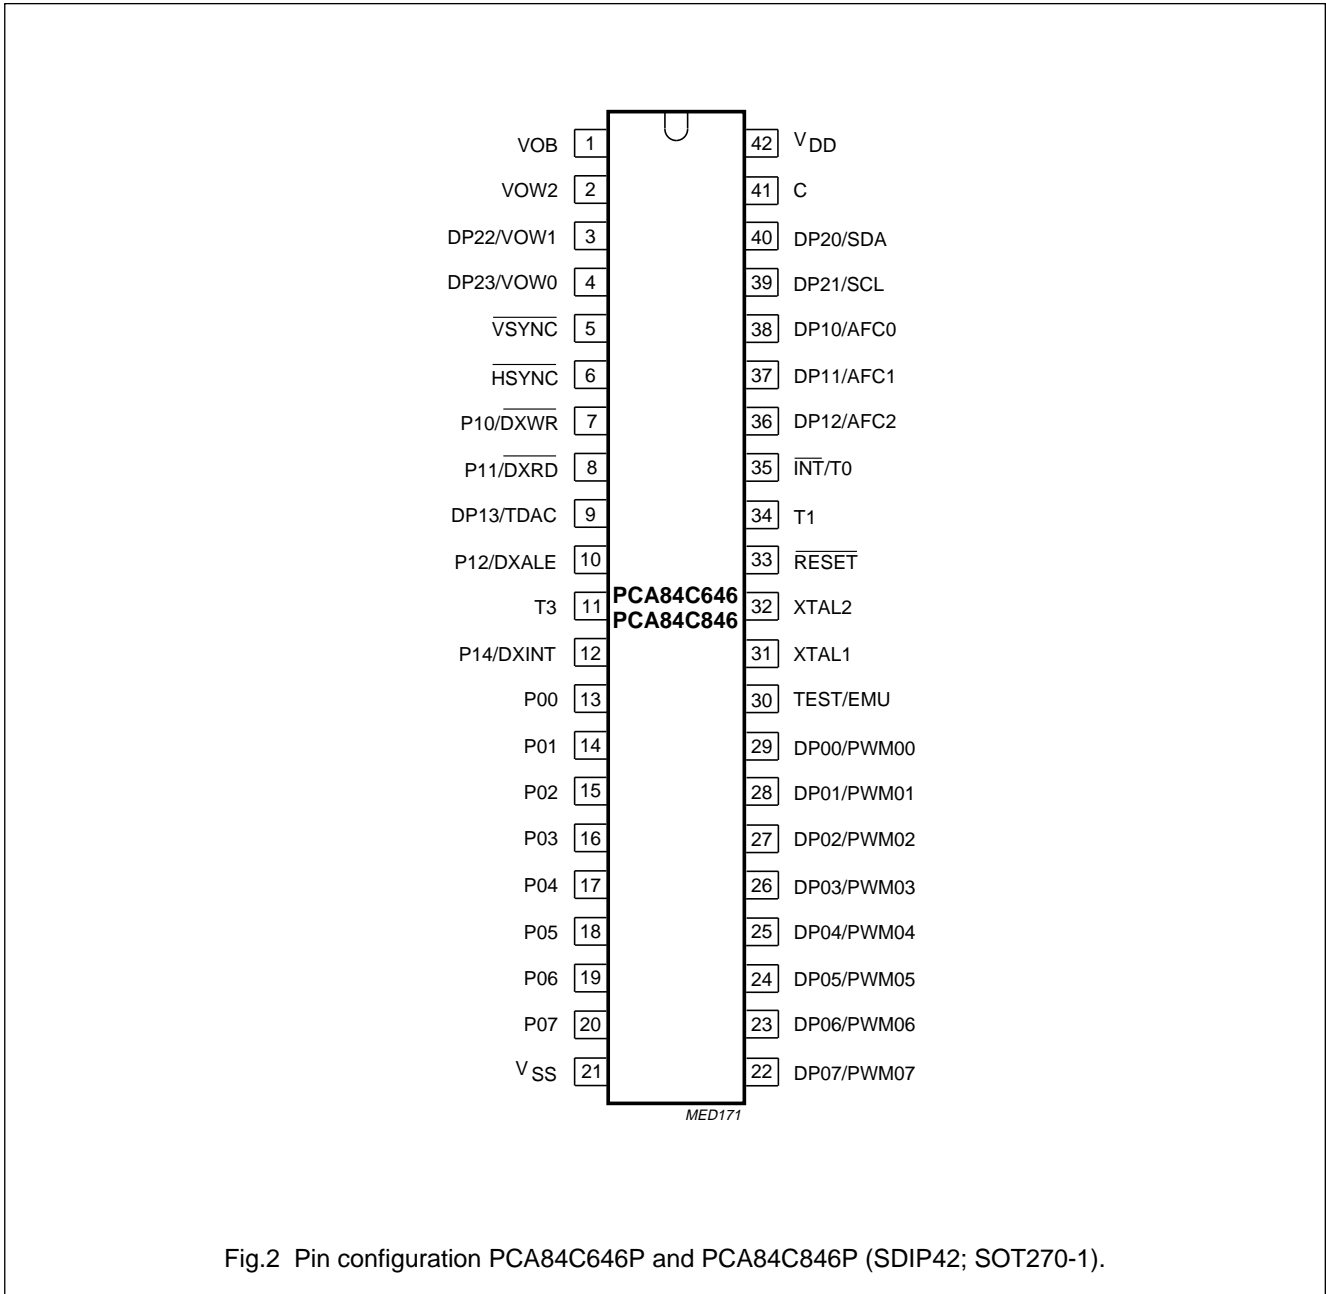

Fig.2 Pin configuration PCA84C646P and PCA84C846P (SDIP42; SOT270-1).
**Table 1** Pin description for PCA84C646P and PCA84C846P; SDIP42 (see Fig.2)